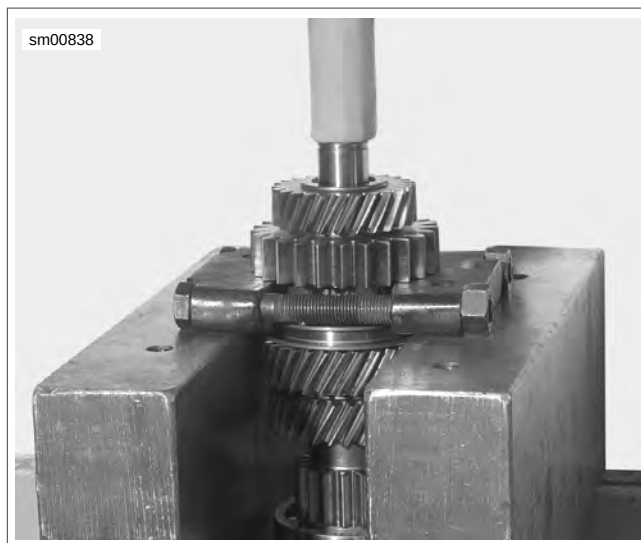

Figure 6-137. 2nd and 5th Gear Removal
3. See Figure 6-137. Place a puller clamp behind 5th gear and press off 2nd and 5th gear. Support the input shaft when removing the gears.